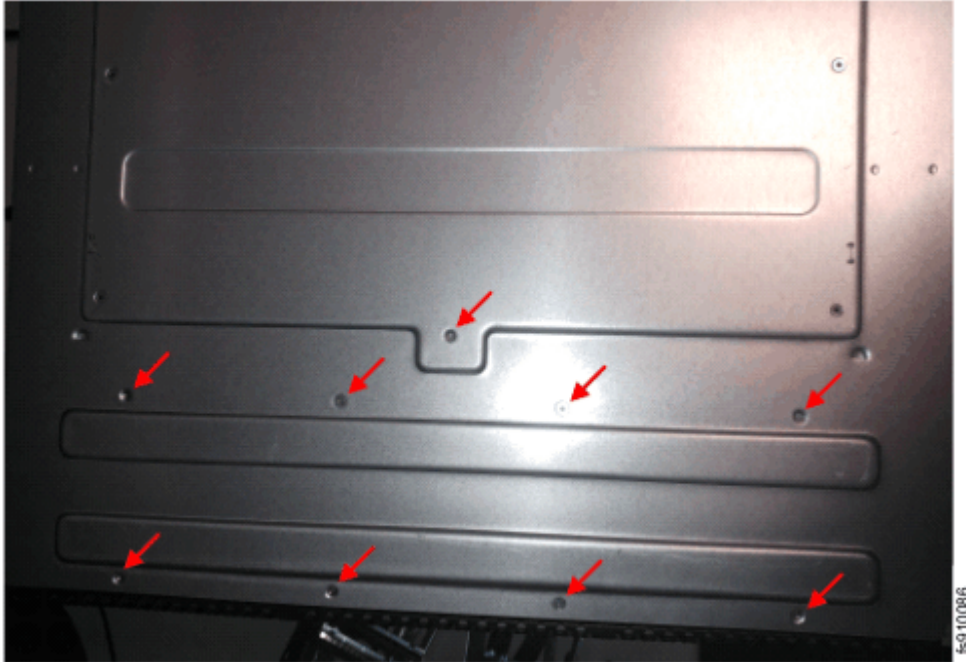

Figure 95. Location of the screws on the underside of the control enclosure
13. Remove the nine screws from under the front of the enclosure (see Figure 95 on page 150).